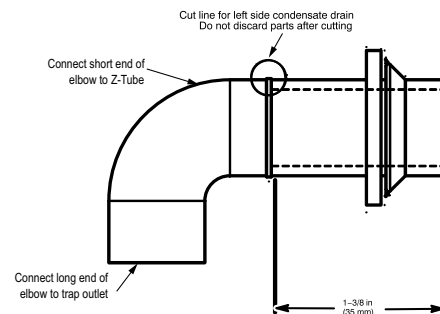

Fig. 17 – Modify Rubber Drain Elbow
3. The Z-pipe is connected to the condensate trap and the outside of the furnace by modifying the formed rubber drain elbow as shown in Fig. 17.
4. Remove the formed grommet from the rubber drain elbow by cutting the elbow along the vertical line located about 1-3/8 in. (35 mm) away from the formed grommet. See Fig. 17. **DO NOT DISCARD THE FORMED GROMMET OR THE RUBBER ELBOW.** Both of these pieces will be used.
TIP FROM CONTRACTORS: When installing the furnace horizontally, use the entire drain elbow (that is, do **NOT** cut as shown in Fig. 17) to connect the trap to the drain line. This helps to prevent bumps and shocks to the drain line from damaging the furnace drain trap. Avoid misalignment of the drain pipe which may cause kinks in the elbow.